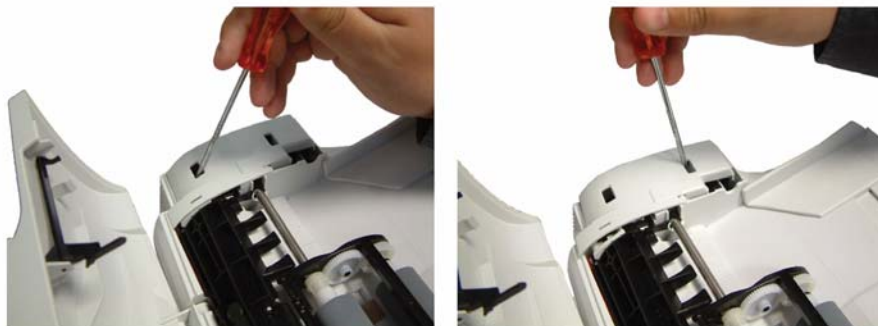

Figure 3
2. Remove the ADF motor cover from its two slots using a flat screwdriver then remove the ADF motor cover, Figure 3.